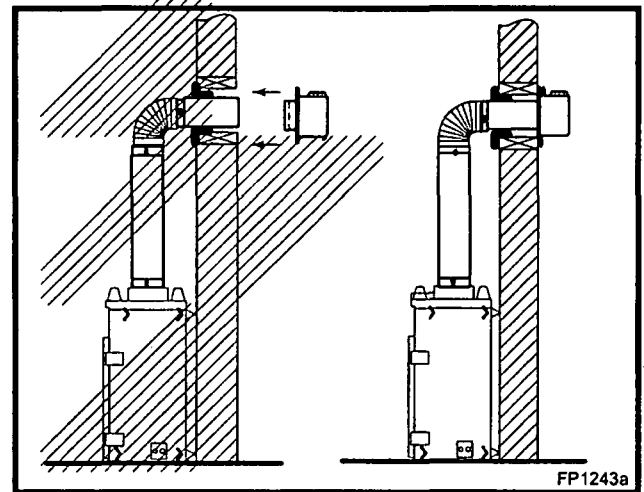

Fig. 26 Secure termination to wall.
A vertical vent system must terminate no less than 12' (3.66m) and no more than 40' (12m) above the appliance flue collar. A 2' (610mm) vertical section must be installed before any offset. A maximum of 20' (6.1m) horizontal and three (3) 90° elbows may be installed with a minimum of 12' (3.66m) vertical section above the flue collar of the unit. Refer to Page 15, Figure 26 for more information.
Guide the vent terminations 8" and 11" collars into their respective vent pipes. Double check that the vent pipes overlap the collars by 2" (50mm). Secure the termination to the wall with screws provided and caulk around the wall plate to weatherproof. (Fig. 26) As an alternative to screwing the termination directly to the wall you may also use expanding plugs or an approved exterior construction adhesive.